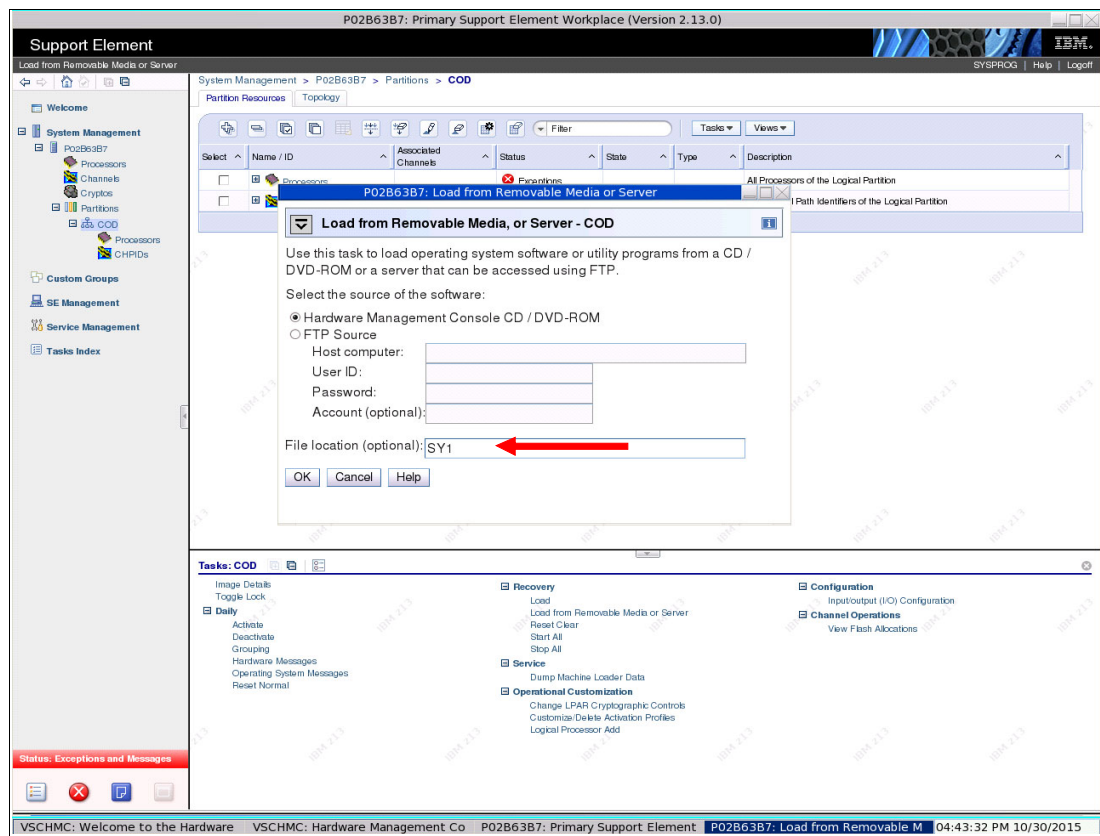

Figure 8-5 Load from Removable Media or Server pop-up window
3. A pop-up window opens, as shown in Figure 8-5. We insert into the HMC DVD drive the DVD that is labeled for the first SYSRES volume (the name of which ends with SY1), according to your COD documentation.